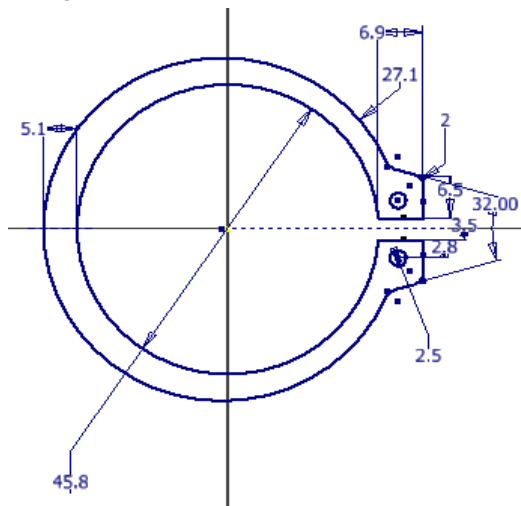

Figure 17-43 Dimensions for circlip
2. Draw the profile for creating a circlip and then apply dimensions to it, as shown in Figure 17-43.